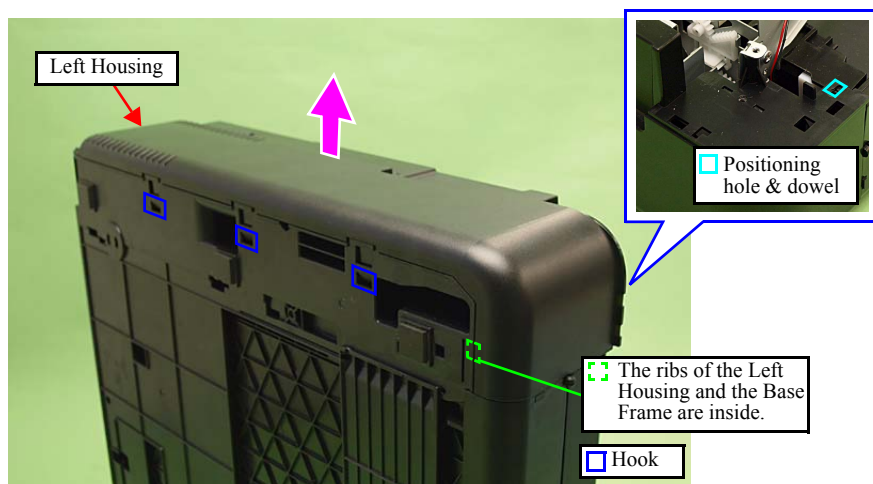

Figure 4-21. Removing the Left Housing / Decoration Belt L (2)
- Align the positioning hole of the Left Housing with the dowel of the Base Frame. (See Fig. 4-21.)